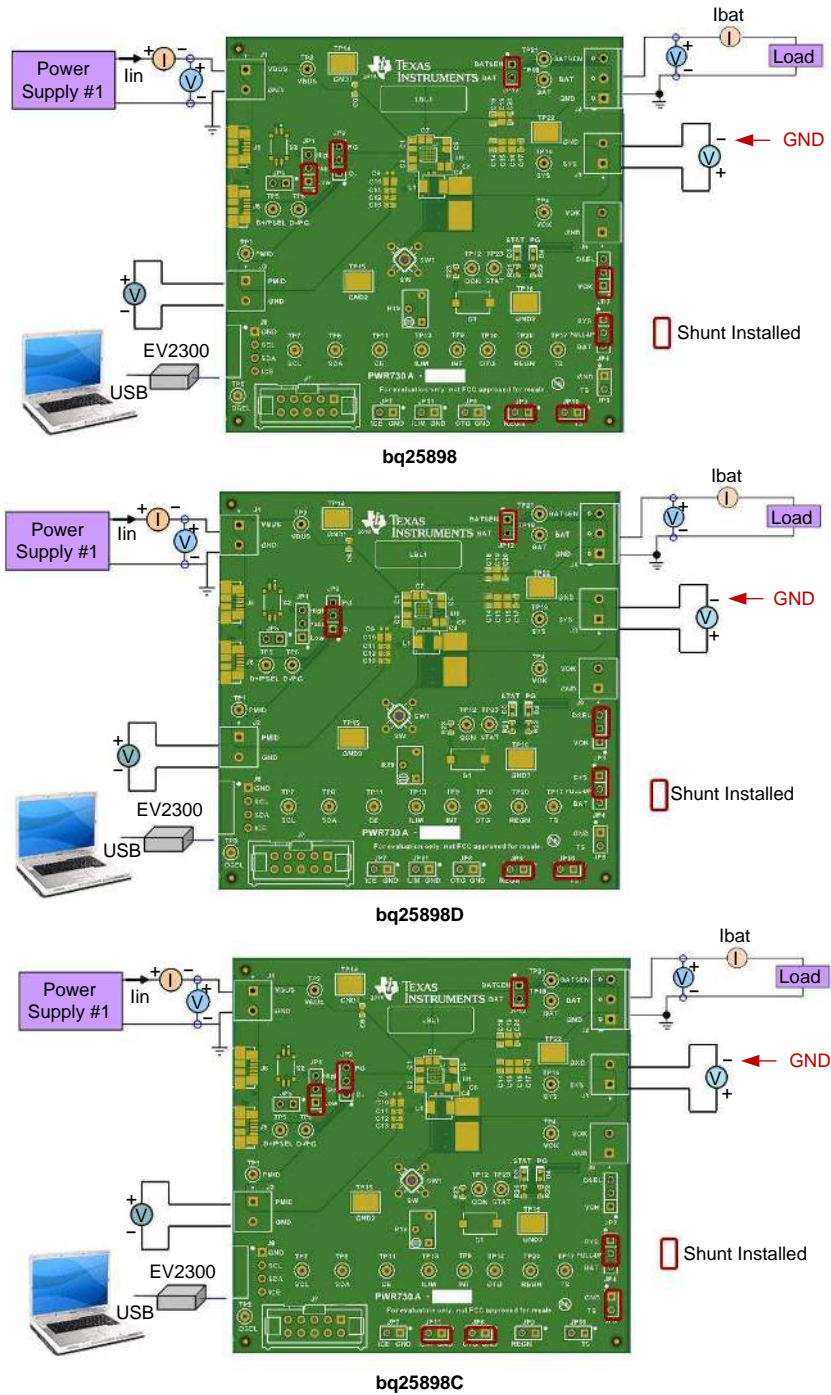

Figure 2. Original Test Setup for bq25898X
4. Turn on the load, set to constant voltage mode and output to 2.5 V. Turn off (disable) load. Connect the load in series with a current meter (multimeter), ground side, to J4 (BAT and GND) as shown in Figure 2.
7. Install shunts as shown in Table 3, or as shown in Figure 2.